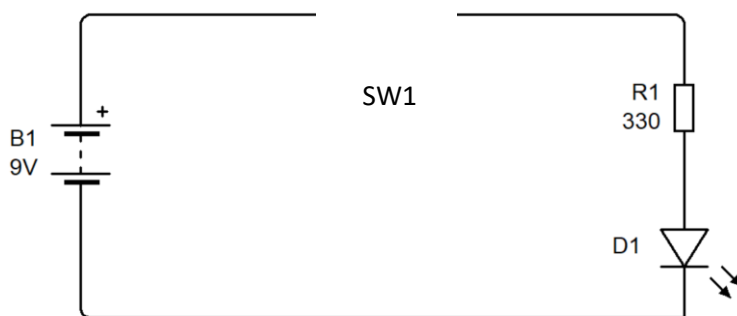
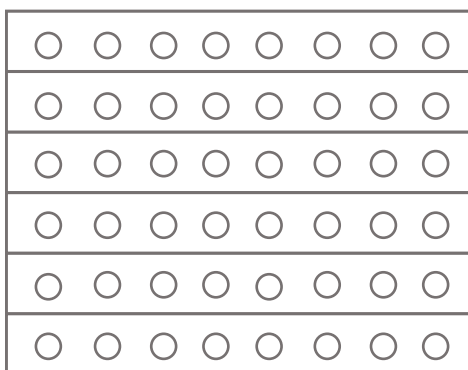

Figure 10
Figure 11
Figure 10 shows an incomplete electronic circuit diagram to be used inside the solar system.
a. Complete the electronic circuit diagram in Figure 10 by drawing a SPST type switch SW1. (1)
c. Refer to the circuit in Figure 10. On the strip board template given in Figure 11, draw the component layout of the circuit. Draw and label the power supply leads. (3)
d. Calculate the current flowing in the circuit shown in Figure 10, if the voltage drop across the LED is 2.4V. Include the unit in your answer.